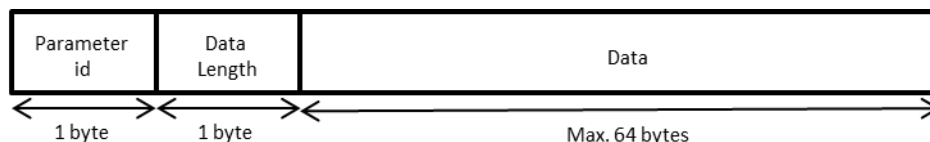

Figure 28: Data Format in Write Configuration
- The data format is shown in Figure 28: